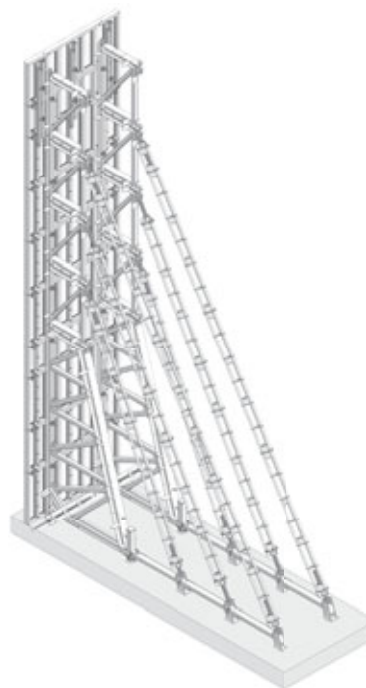

Fig. 5.4 Up to a formwork height of 11.00 m:
- 11.00 m – 4 height extensions, base extensions, Triplex SB braces (Fig. 5.4)